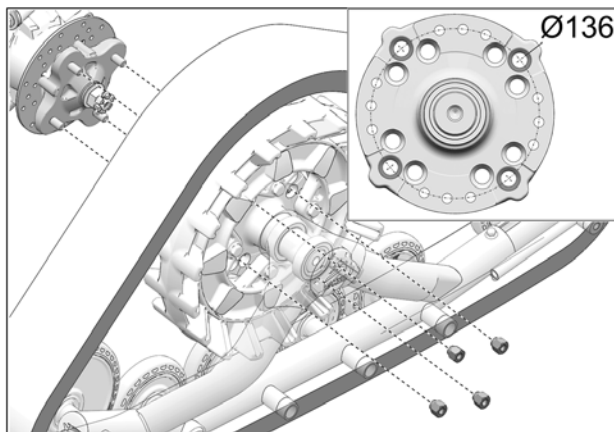

Fig. 9
- Secure undercarriage to rear hub using the vehicle's own lug nuts. Use bolt circle $\text{Ø}136 \text{ mm}$. See Fig. 9